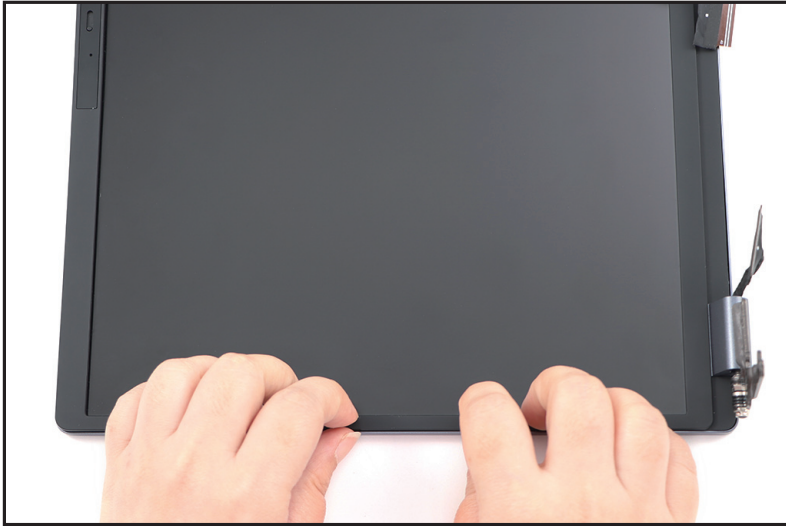

Figure 1-65. LCD Bezel Removal
3. Continue prying along the left side of the bezel (Figure 1-65).